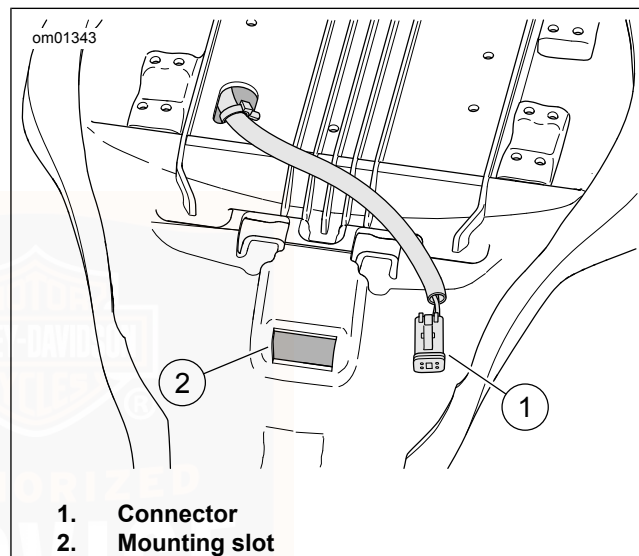

Figure 87. Seat Mounting Slot
5. See Figure 87. Separate the seat connector half (1) from the power connector half.